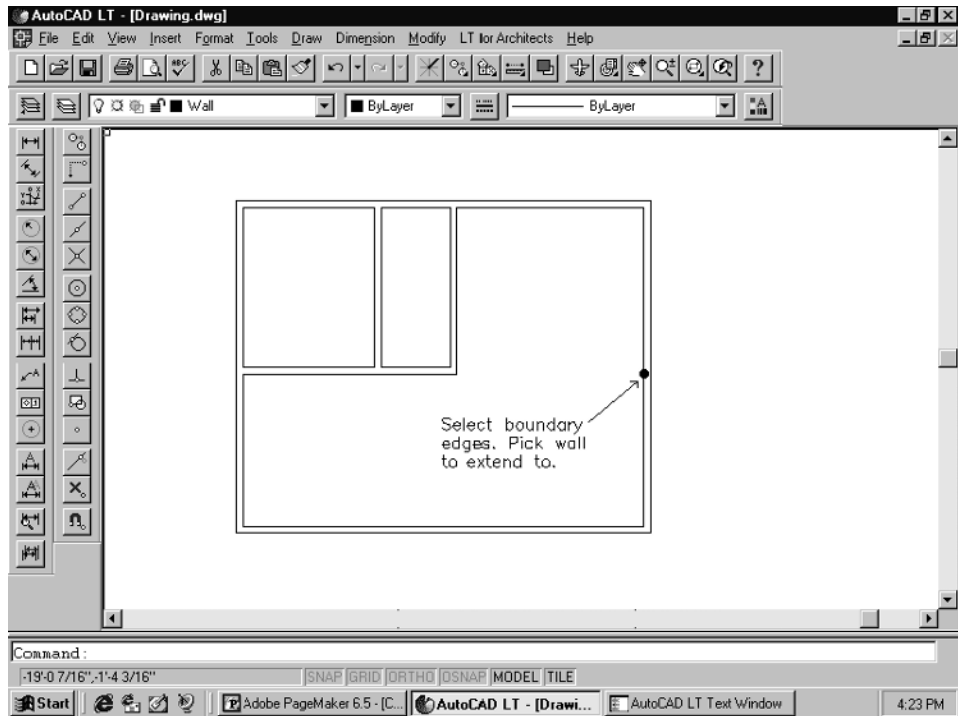

Figure 2-14
5. To finish these interior walls, select the **Extend** command from the Modify pull-down menu, or type **Extend** and hit **Enter**. At the command line prompt *Select boundary edges: Select objects*, pick the inside wall line with your left mouse button, as shown in Figure 2-14. Then hit **Enter**. This is the line that you want the other wall lines to extend to.